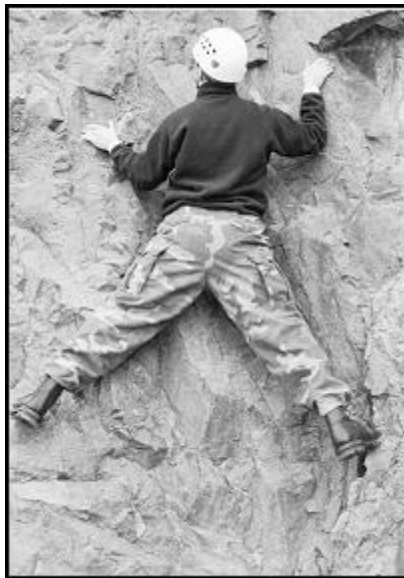

Figure 6-15. Stemming on a face.
(5) ***Stemming***. When the feet work in opposition from a relatively wide stance, the maneuver is known as stemming. The stemming technique can sometimes be used on faces, as well as in a dihedral in the absence of solid handholds for the lieback (Figure 6-15).